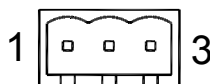

Figure 25: Power Input Connector – J5
3. Attach the 3 wires from the power cord to the power connector. Note that pin 1 is on the left side of connector J5. See Figure 25.
2. Wire the connector as shown in Table 11 using appropriately sized wire. Note that pin 1 is on the left side of connector J5. See Figure 25.